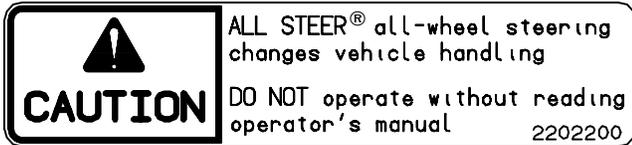
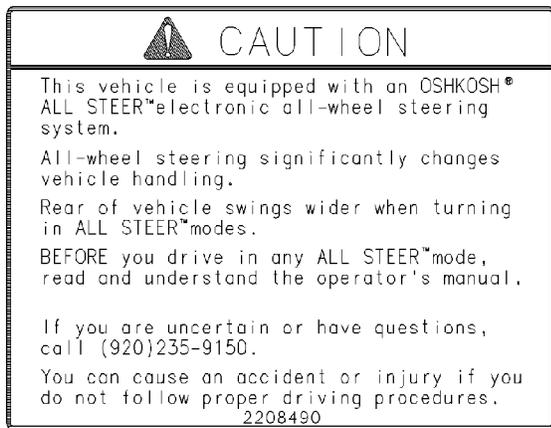

Figure 25. Steering Mode Caution Label
Figure 26. Operator Caution Label
4.1 Steering Mode Caution and Operator Caution Labels. The small Steering Mode caution label is located next to the ALL STEER® mode selector switch, see Figure 25. The Operator Caution label is located near the driver's seat, see Figure 26. **Follow the instructions on these labels and in this manual before operating this vehicle in any ALL STEER® mode.**